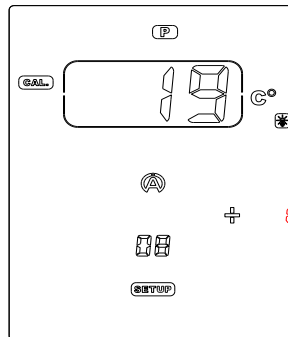

Figure 24
- 3) With the buttons **▽** **△**, adjust the temperature in the « FRAME » so that the displayed temperature corresponds to a temperature of reference (figure 24).